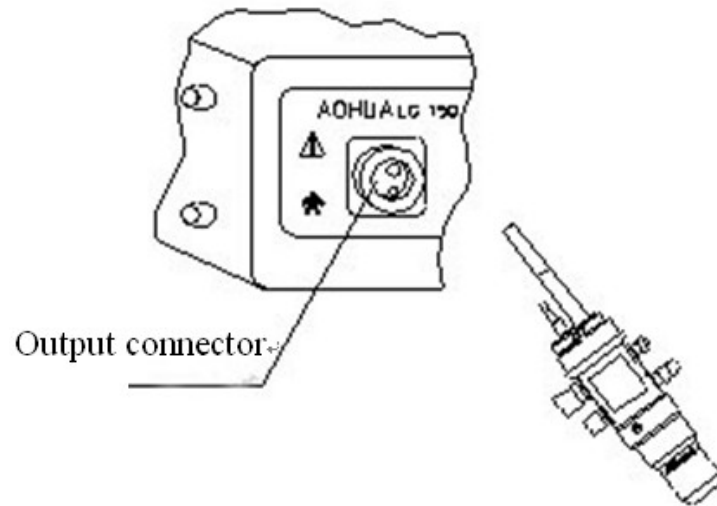

Figure 3.2
3)insert the head of the light guide plug solidly in the connecting socket in the light source (see Figure3.2).